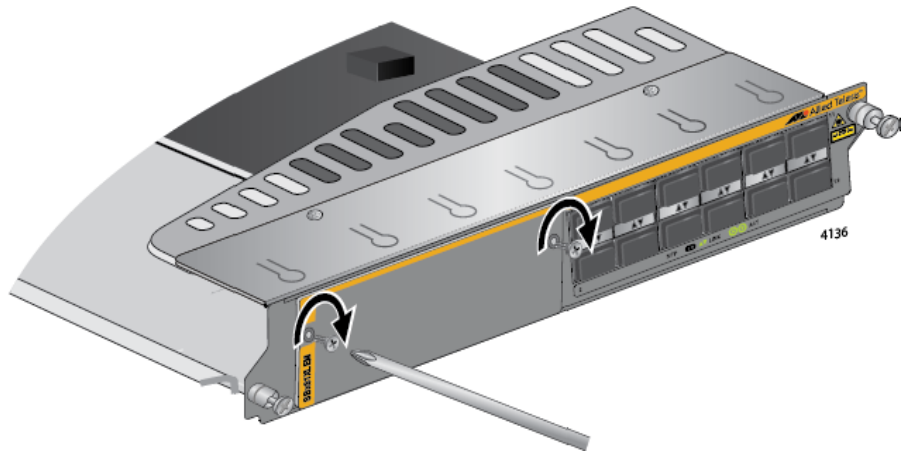

Figure 166. Securing the Blank Slot Cover
10. Secure the blank slot cover to the card with a Phillips-head screwdriver and the two screws removed in step 3. Refer to Figure 166.